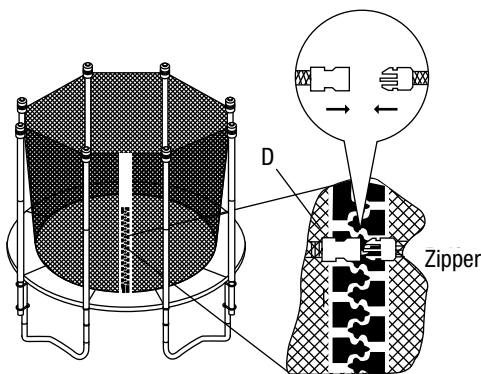

fig. 6.1
Close the zipper on the safety net (D) entrance. Ensure that the entrance is located between two trampoline support legs, then connect the two snap closures (Fig. 6.1) (the lower snap closure is not illustrated).